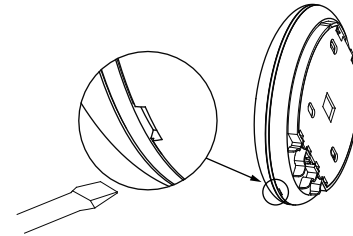

Figure 16.
3. Remove the front cover by inserting a screwdriver into the slot as shown in Figure 16, and slowly and carefully lever down to remove.